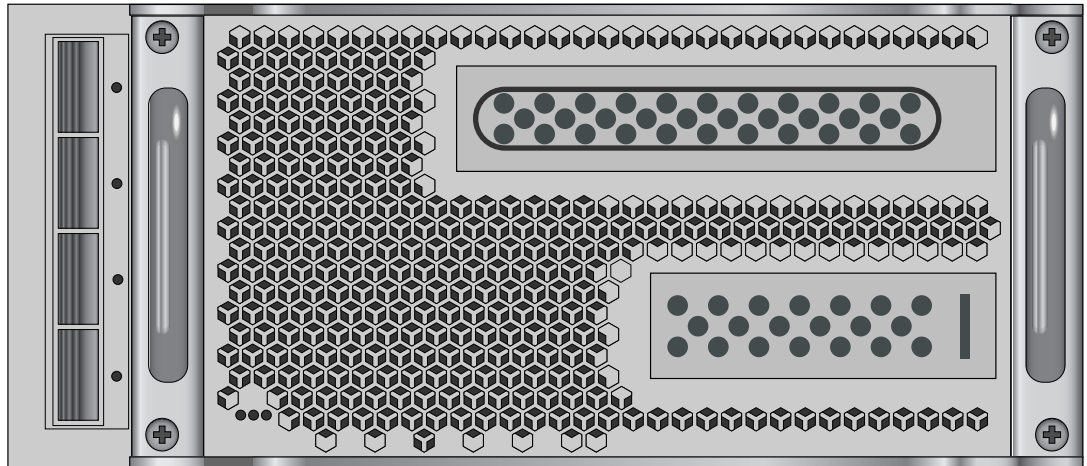

Figure 1-8 PCIe Option Blade Example with Full-Height and Low-Profile Slots
- The optional full -height two-slot internal PCIe blade is a dual-node compute blade that supports one full-height x16 PCIe Gen3 card in the top slot and one low-profile x16 PCIe Gen3 card in the lower slot. See Figure 1-8 on page 26 for an example.